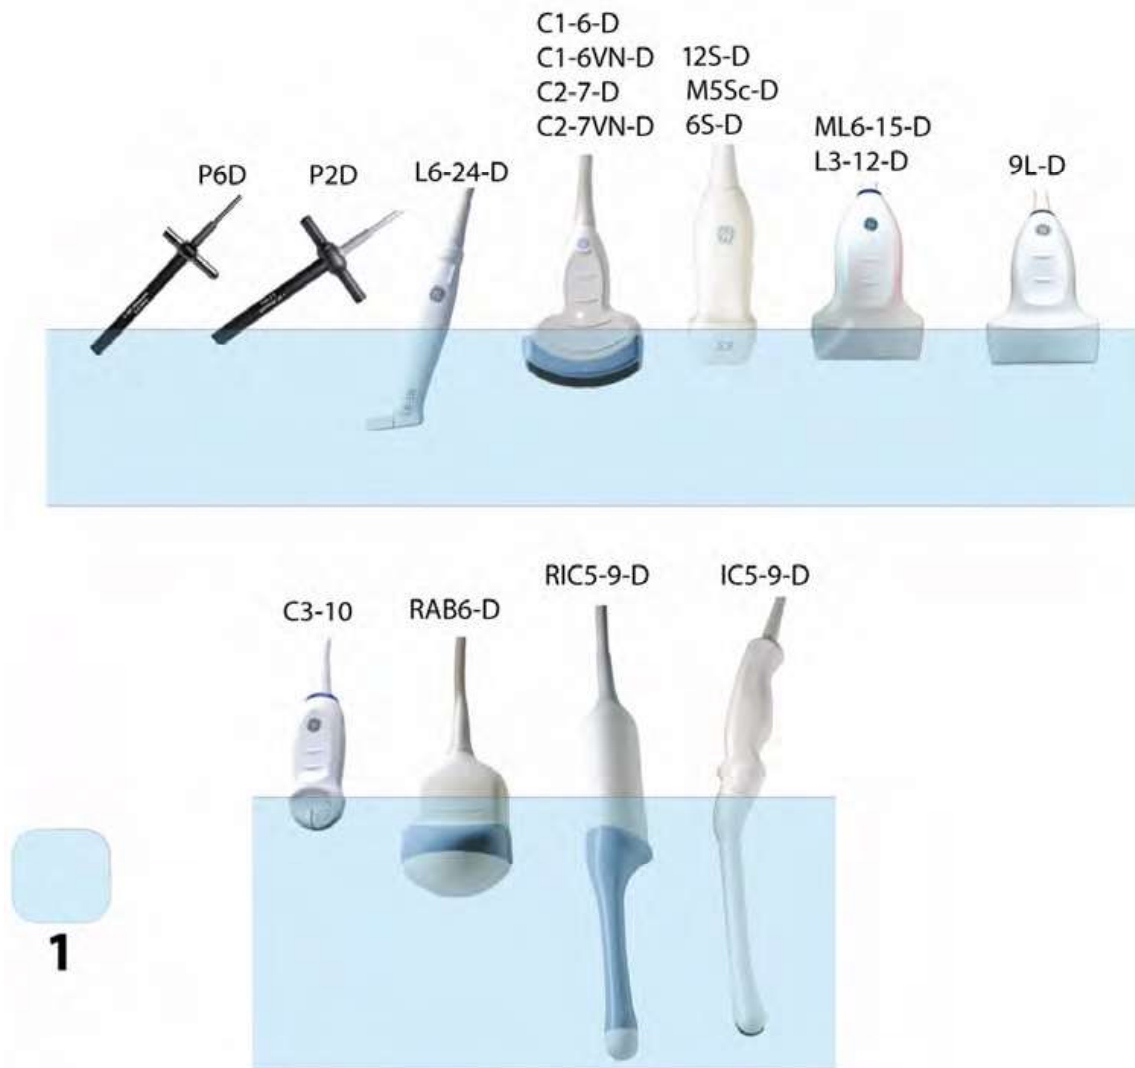

Figure 11-11. Probe Immersion Levels, 1 = Fluid Level
1. Ensure the probe has been disconnected from the console. Replace gloves and fill a sink or basin with High-Level Disinfectant diluted in accordance with the disinfectant manufacturers instructions to a level allowing immersion of the probe up to immersion line shown in Figure 11-11 on page 11-31.